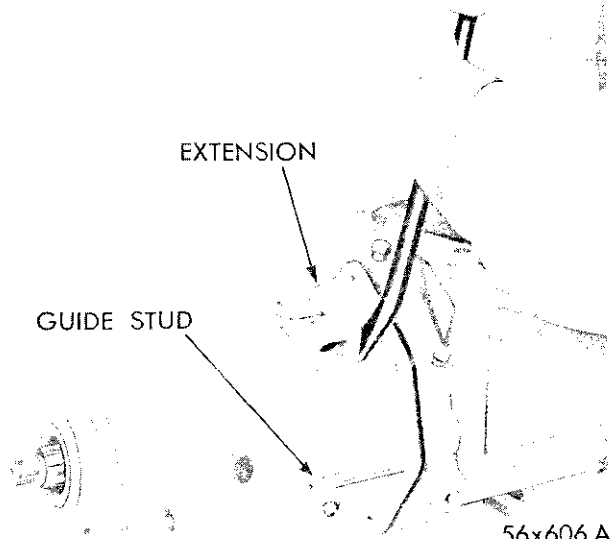

Fig. 35—Removal of Extension
(2) Inspect the output shaft rear oil seal and remove (if necessary) using puller Tool C-3690. If the transmission extension housing oil seal or bushing are to be replaced, the seal must be removed at this time before extension housing is removed from transmission case.
(3) Remove the transmission extension to case bolts and lockwashers. Install guide studs, Tool C-3283 and remove extension from output shaft support assembly by tapping housing lightly with a soft hammer. **Housing may be separated by using a pry bar against support screw, as shown in Figure 35.** Remove the extension gasket.